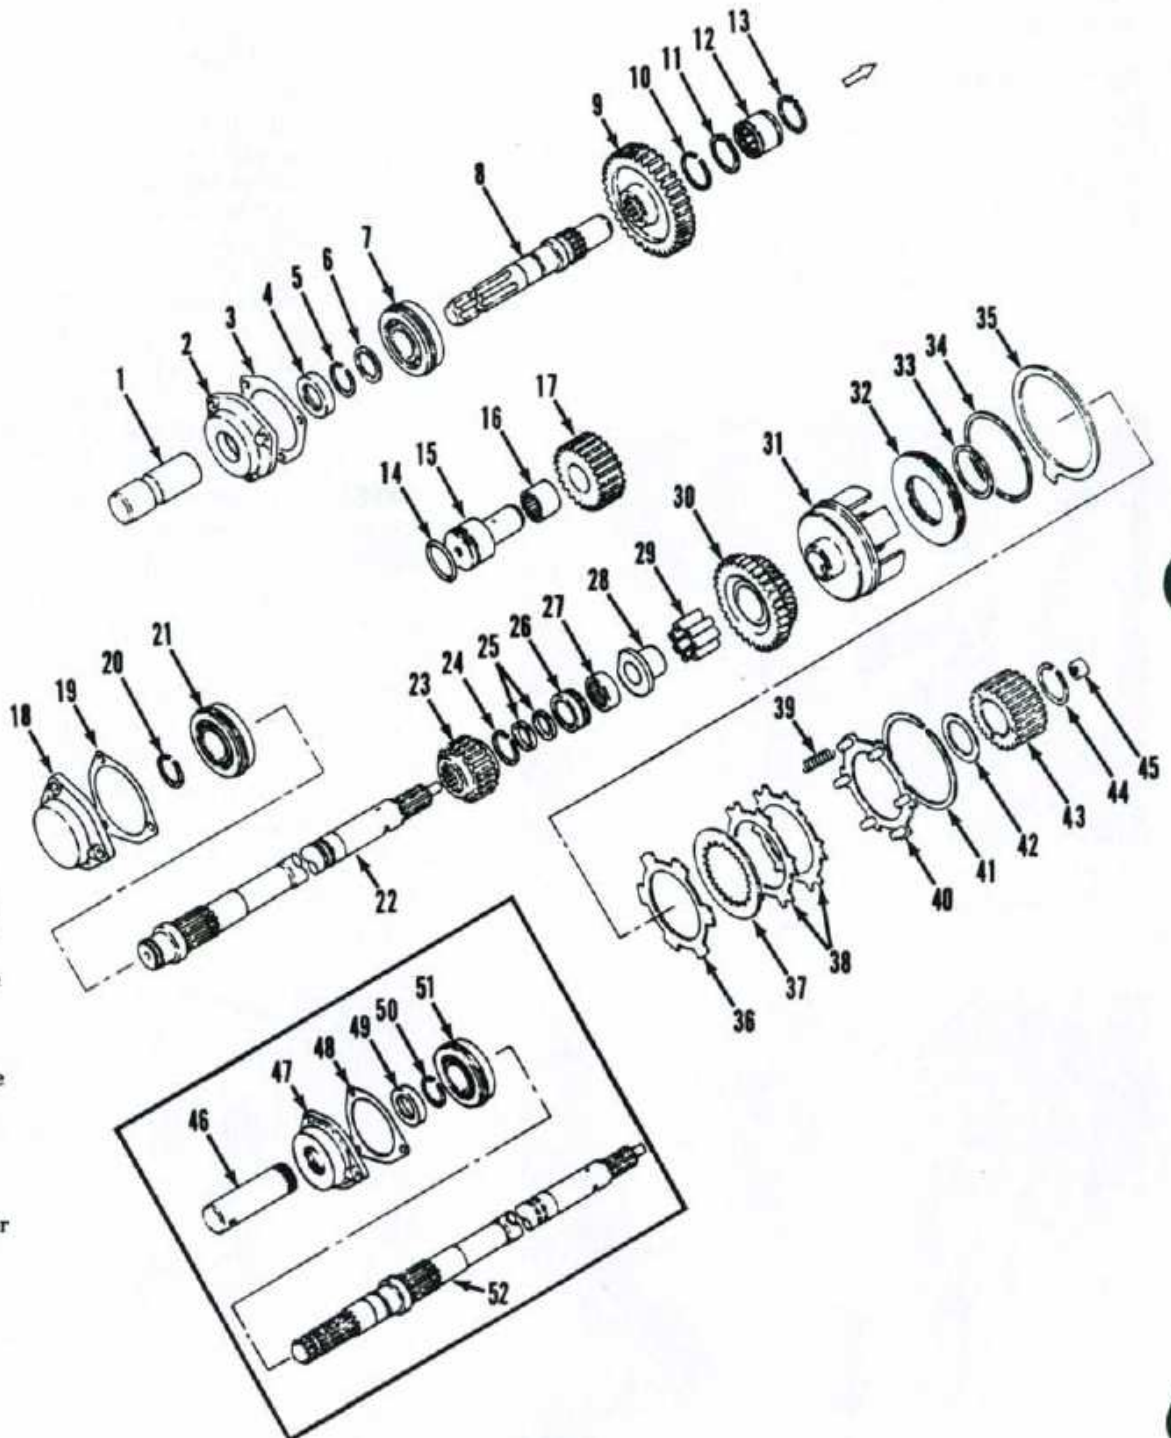

Fig. 154—Exploded view of pto clutch, gears and shafts. Inset shows the 1000 rpm shaft used in place of lower drive shaft (22).
To disassemble the pto clutch, first use a pair of "C" clamps or a suitable puller and compress the return springs (39—Fig. 154), then remove snap ring (41). Remove clamps or puller and remove clutch back plate (40) and return springs (39). Remove friction discs (37), drive plates (38), piston back plate (36) and brake ring (35). Remove snap ring (44), thrust washer (42) and clutch hub (43). Bump front of clutch cup (31) on bench top and remove piston (32) with "O" rings (33 and 34).
Bushing (26—Fig. 154) for the 1000 rpm output shaft (52) or lower drive shaft (22) on 540 rpm unit is in the front of differential compartment. This bushing should be renewed if new shaft (52) or (22) is required or if seal rings (25) have grooved the bushing. When installing bushing (26) bottom it in bore. Position needle bearing (27) to within 1/32-3/32 inch (0.79-2.38 mm) of front face of bushing (26).